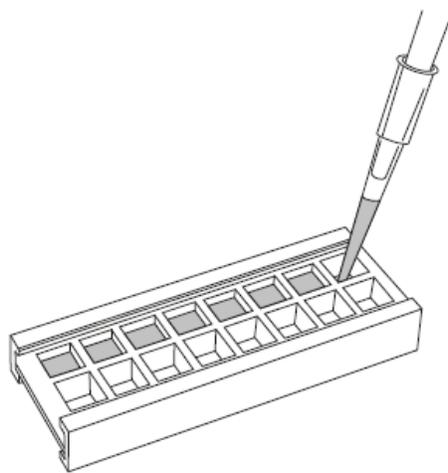

Figure 6
6. Add reagents to each well as shown in Figure 6. Well center-to-center spacing is 9mm and this facilitates use with multi-channel pipettes.